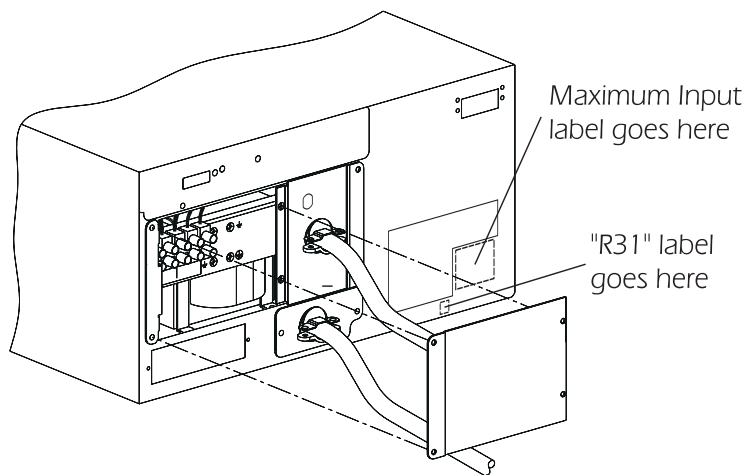

Figure 5-23 Installation of Access Panel (100V and 120V Rack Mount)
1. Slide the access panel (Figure 3-1, item #4) into position as shown in Figure 5-23. Make sure that the printed side faces out.
- 2. Remove the small "R31" label from the receptacle option label sheet and apply it to the rear of the chassis, directly below the existing model/serial number label. (See Figure 5-23)*